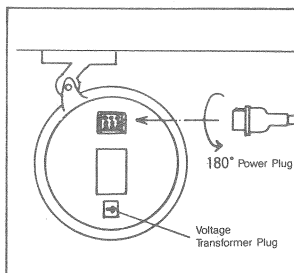

Fig. 6
3) Confirm the Rotating Direction of the Machine After turning on the power, confirm that the machine is in full operating condition. Then, check the rotating direction of the machinery, by depressing the pedal toward the LOW SPEED position. The correct rotating direction of the machinery is counterclockwise, as seen by the pulley. If the rotating direction is not correct, turn off the power immediately, remove the power plug of the motor, and reconnect it after turning it 180 degrees in the opposite direction (See Fig. 6 and 7)